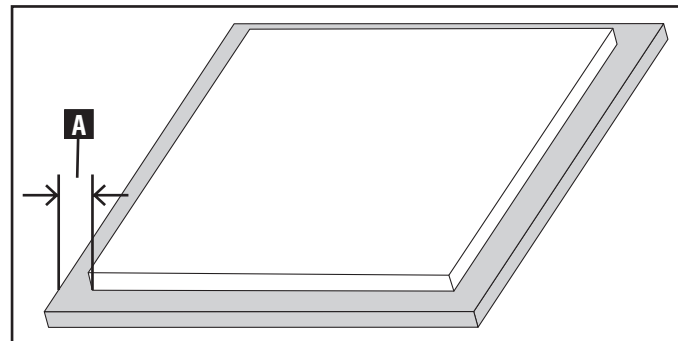
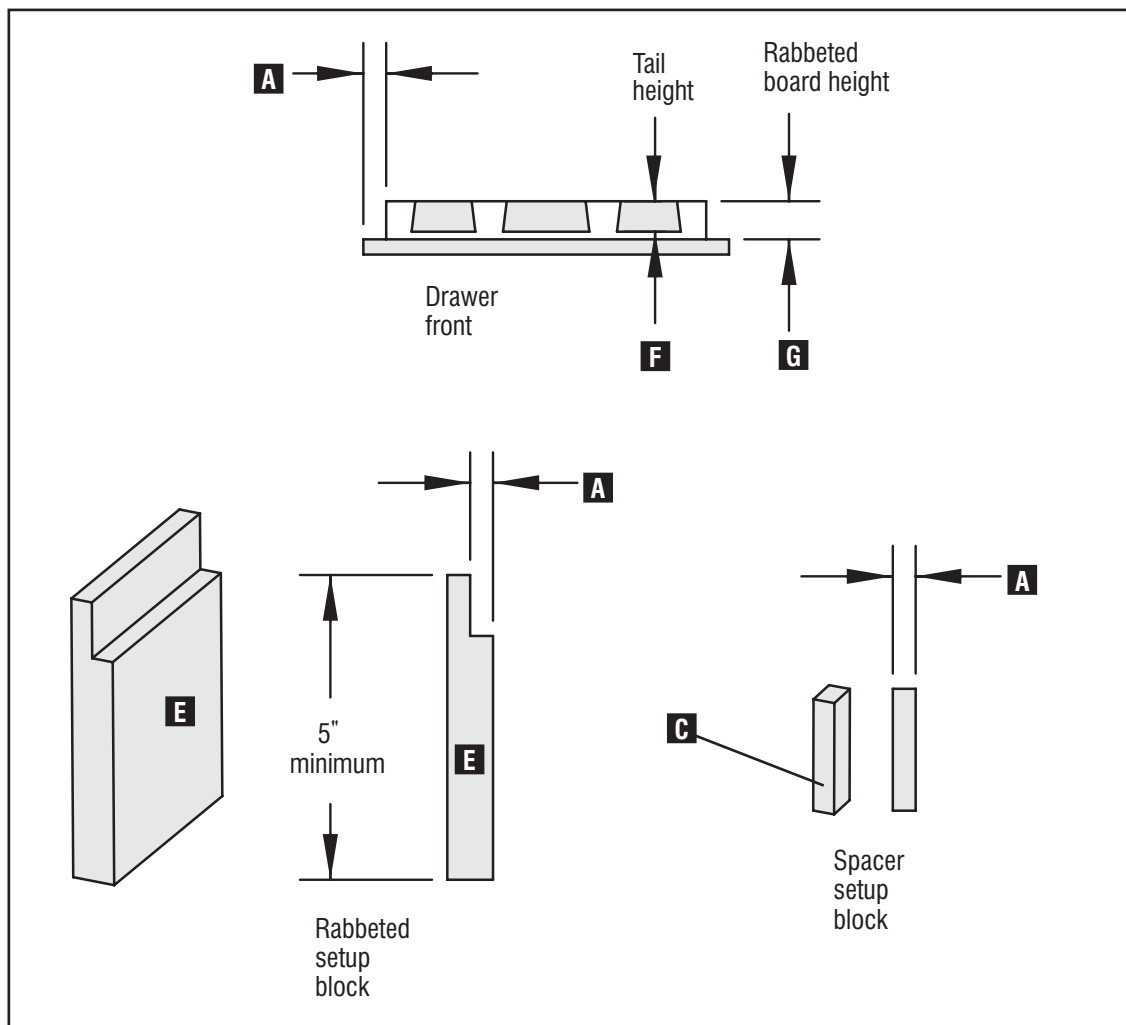

Fig. G2
Fig. G3
**NOTE:** The instructions in this chapter are assuming your rabbet width (A) Fig. G2 is the same on all four sides.
- A **rabbeted setup block** (E) Fig. G3, where (A) Fig. G3 is equal to your rabbet width (A) Fig. G2.
- A **spacer setup block** (C) Fig. G3 that is as wide as (A), your rabbeted width.